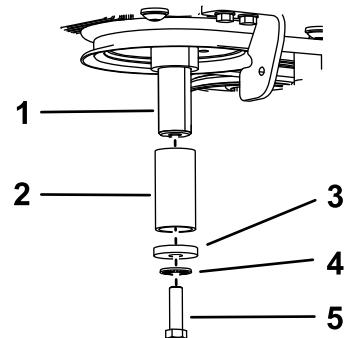

**Figure 87**
- B. Remove the bolt, washer, spring washer, and clutch (Figure 87).